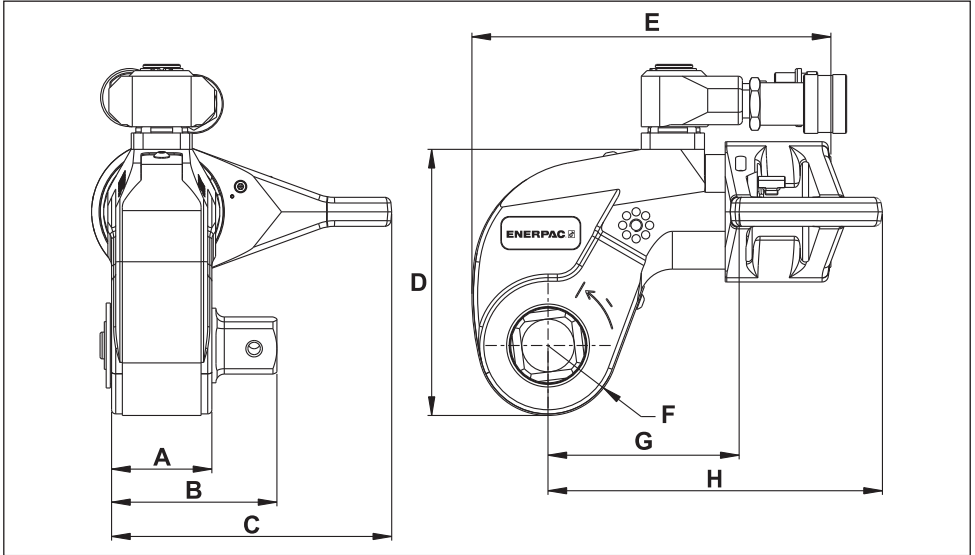

Fig. 28
6.1 Capacities, Dimensions and Additional Product Data (Fig. 28)